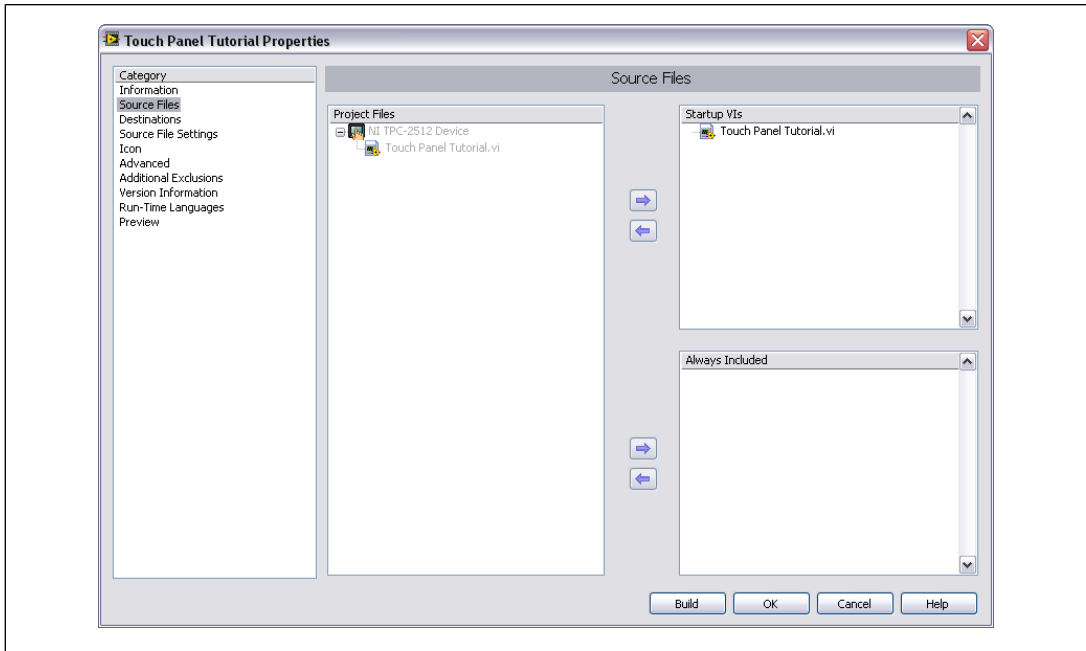

Figure 16. Selecting the Source Files
3. Select the **Source Files** category to select the source files to include when you build the Touch Panel VI into a Touch Panel application. When you use the Touch Panel Project Wizard to create a build specification, LabVIEW automatically uses the VI you import as the startup VI. When you create build specifications outside of the wizard, you must select the startup VI manually and click the blue arrow button to move the VI to the **Startup VIs** list box, as shown in Figure 16. You must define at least one VI as the startup VI for the application.